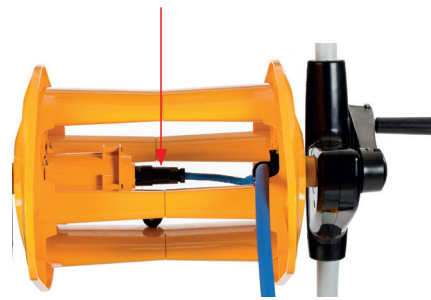

Figure 3: Roller Inner Connection
**Important:** Every two or three cleaning sessions, disconnect the floating cable from the roller inner connection (Figure 3), unroll the entire cable and re-arrange it on the roller as required.